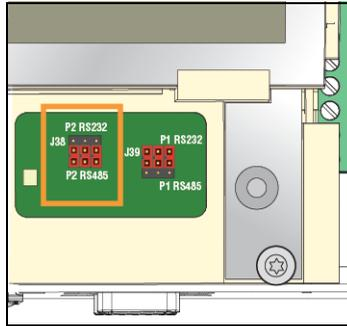

Figure 6. Serial Port 2 J38 Jumpers Set To RS-485 Positions
- Put all three jumpers for the Serial Port 2 (J38) into position P2-RS-485 as shown in Figure 6.